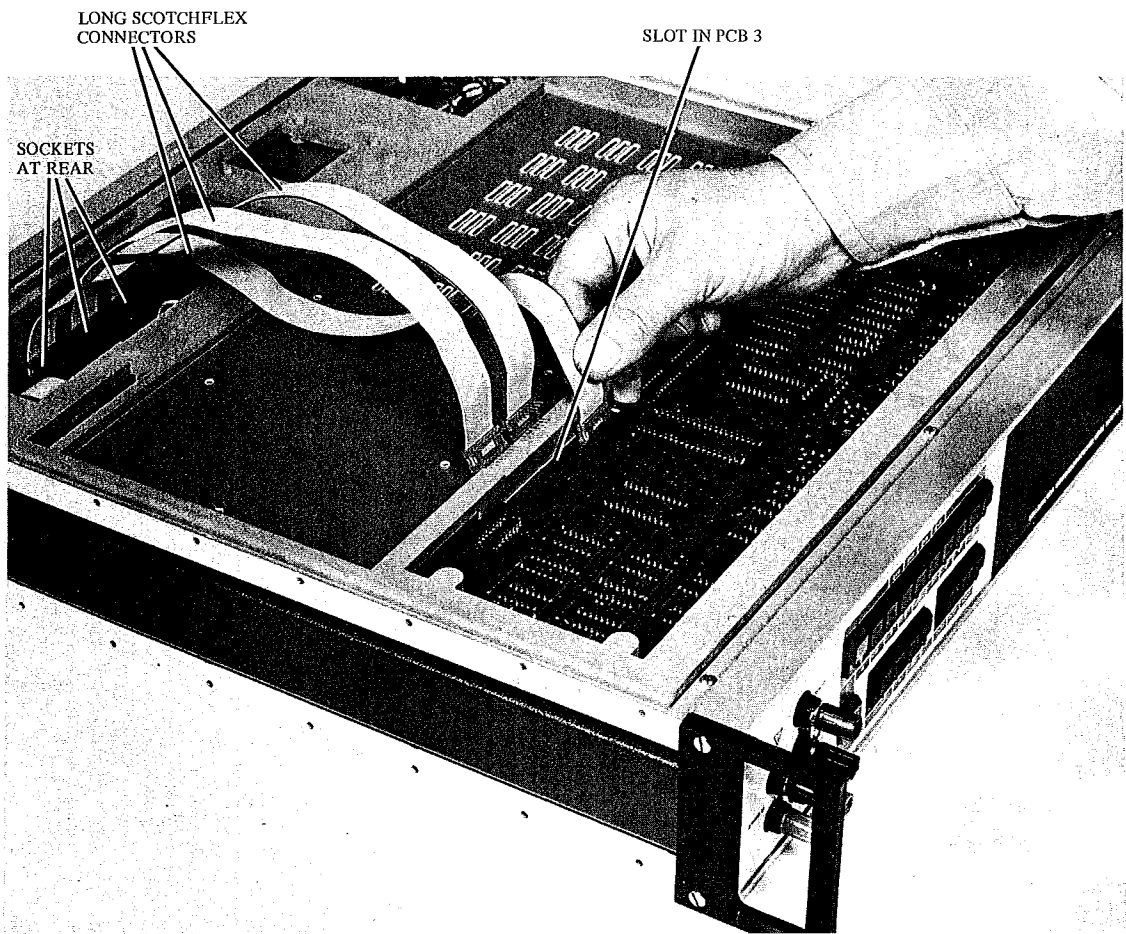

Fig. 3 Fitting the long Scotchflex connectors
6. Fit the 3 long Scotchflex connectors to the 3 sockets in pcb at rear of the instrument (Fig. 3), unless already fitted for pcb 8. Feed these cables underneath the instrument and up through the slot provided in pcb 3.